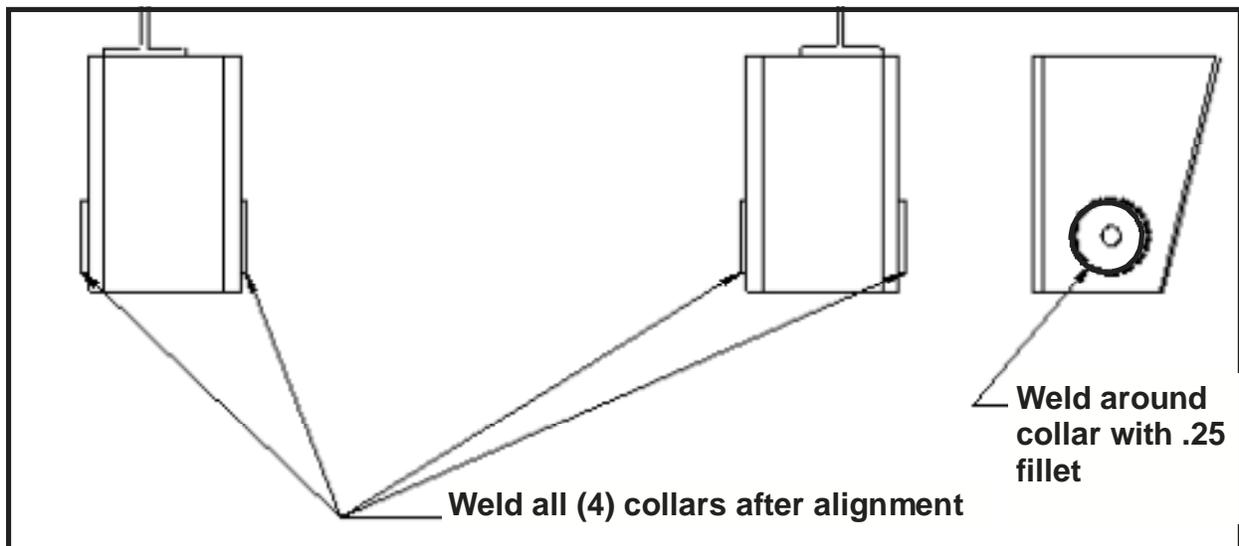

Figure 22
8. Weld all (4) collars with a .25 fillet completely around collars per **Figure 22**.